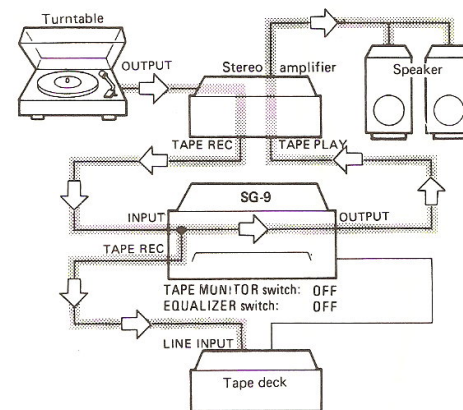

Fig. 11
**PLAYING PROGRAM SOURCE WITHOUT EQUALIZATION (Fig. 11)**